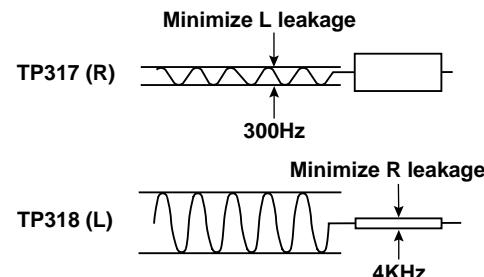

Figure 9. Separation Adjustments
13. Adjust the + or - key for minimum low frequencies at TP317. See Figure 9.
16. Adjust the + or - key for minimum high frequencies at TP318. See Figure 9.